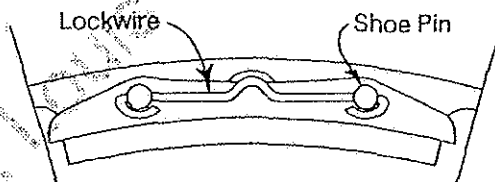

Fig. 13
- 4.5.4 Slide lockwires through the holes of the shoe pins making sure that the scallop or bend in the wire points away from the friction material. Each lockwire should go through two shoe pins, securing one friction shoe. See Figure 13.
- 4.5.5 Center the lockwire so that equal lengths extend from each shoe pin. Bend each end of wire inward toward the friction material and around the shoe pin, as in Figure 13.